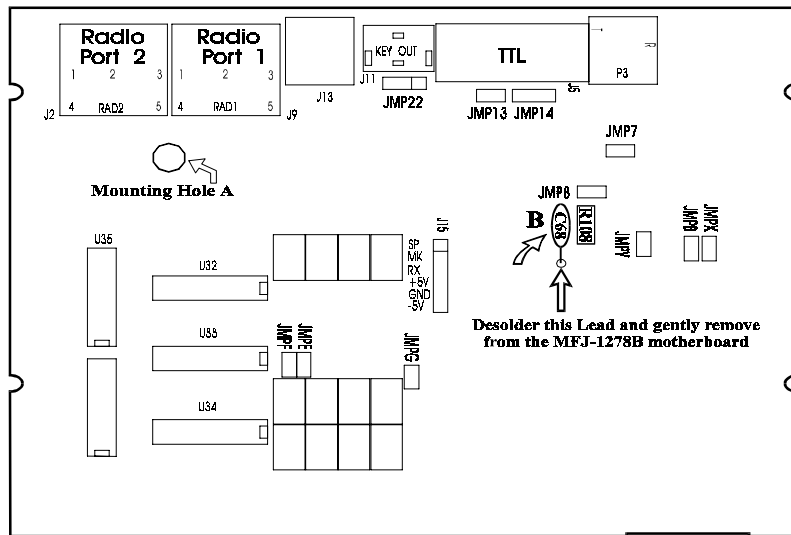

Figure 1
2. Remove the top chassis cover from the MFJ-1278B by removing the (4) screws from the sides of the chassis cover.
5. Locate C68, **Point B** in Figure 1, and desolder *Capacitor Lead W1* of C68 that is closest to the front panel of the MFJ-1278B and carefully
remove the lead from the motherboard of the MFJ-1278B. Please refer **Figure 1** on page 12. **DO NOT** damage the *solder pad* that you are desoldering **Capacitor Lead W1** from; ensure that you desolder the hole completely before trying to remove the capacitor lead.
17. Locate the PC board mounting hole at **MOUNTING HOLE A**, just in front of the radio DIN connectors on the MFJ-1278B motherboard, and remove it. Please refer to Figure 1. Set this screw aside as it will be used later.